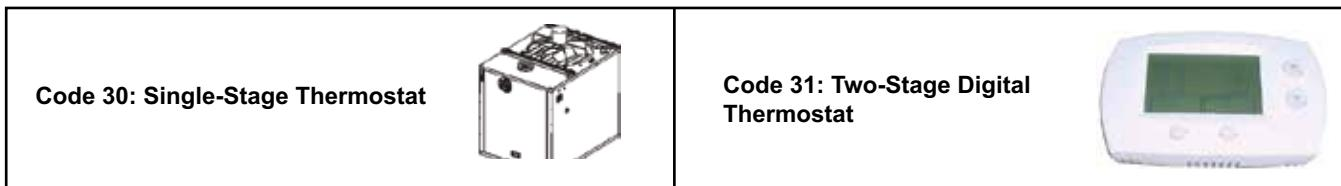

Figure 4. Thermostats
- **Code 30:** Single-stage thermostat (see Figure 4), 24V, 50–90°F with fan switch (PN 255350, same as option CL1)
- **Code 31:** Two-stage digital thermostat with fan switch (see Figure 4), 24V (PN 220630, same as option CL22)